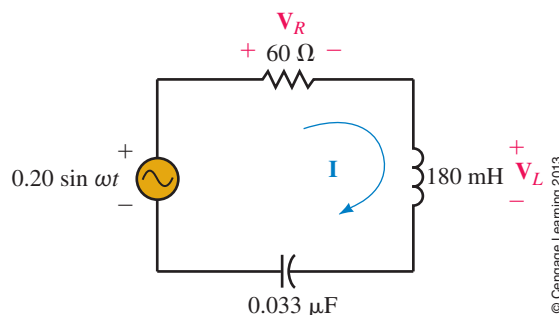

FIGURE 21-47
2. Refer to the circuit of Figure 21-47.